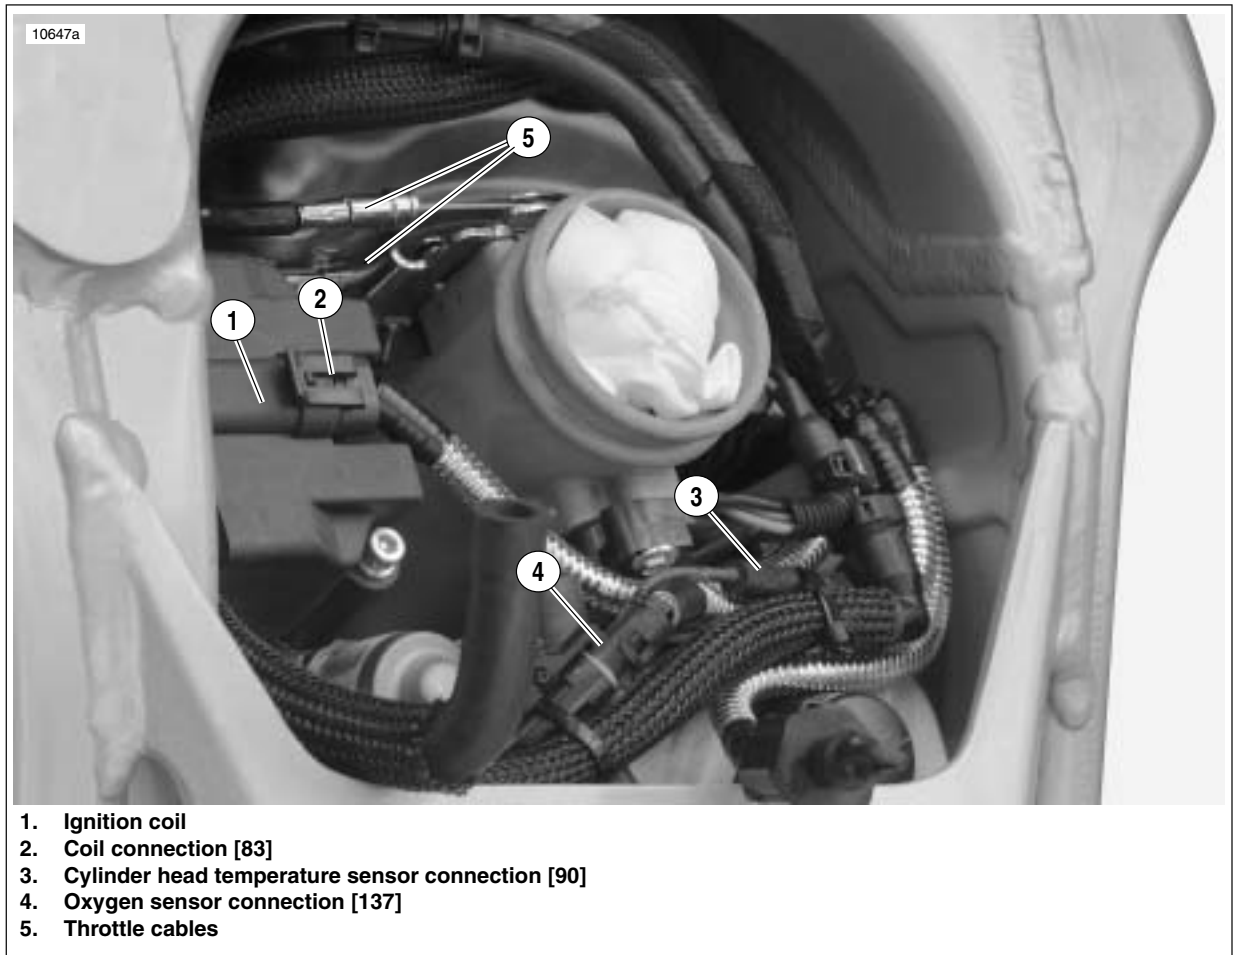

Figure 3-54. Electrical Connections and Throttle Cables (Typical)
37. See Figure 3-54. Connect throttle cables (5) to induction module/throttle body. See 1.16 THROTTLE CABLE AND IDLE SPEED ADJUSTMENT.
- a. Temperature sensor [90] (3).
- b. Oxygen sensor [137] (4).
39. See Figure 3-54. Install the ignition coil (1) and spark plug wires and connect [83] (2). Tighten ignition coil fasteners to 120-144 **in-lbs** (13.6-16.3 Nm).